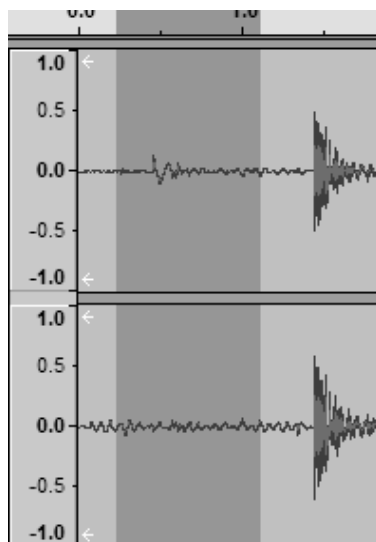

Figure 6: Selecting Noise in Track
1. Drag the cursor over a portion of the audio track which contains noise. We recommend using the beginning or the end of a track where there is no music and only noise. (See Figure 6)